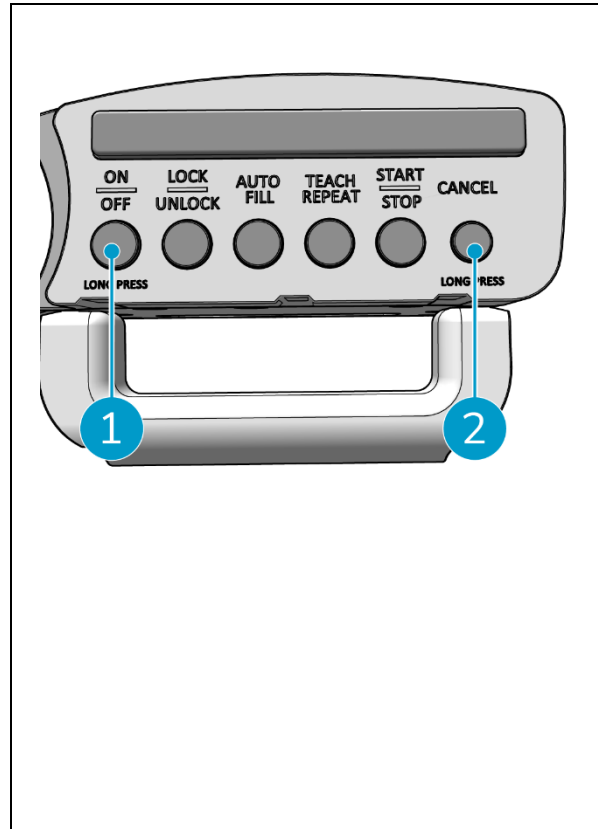

Figure 48
2. Press and hold the ON/OFF button (Figure 48, pos. 1) and the CANCEL button (Figure 48, pos. 2) on the handle controller simultaneously. The handle controller will beep 3 times to indicate that the connection has been deleted.
5. Press the ON/OFF button (Figure 48, pos. 1) once and the handle will start beeping. The best is to place the handle on top of the i-walk to limit interference.